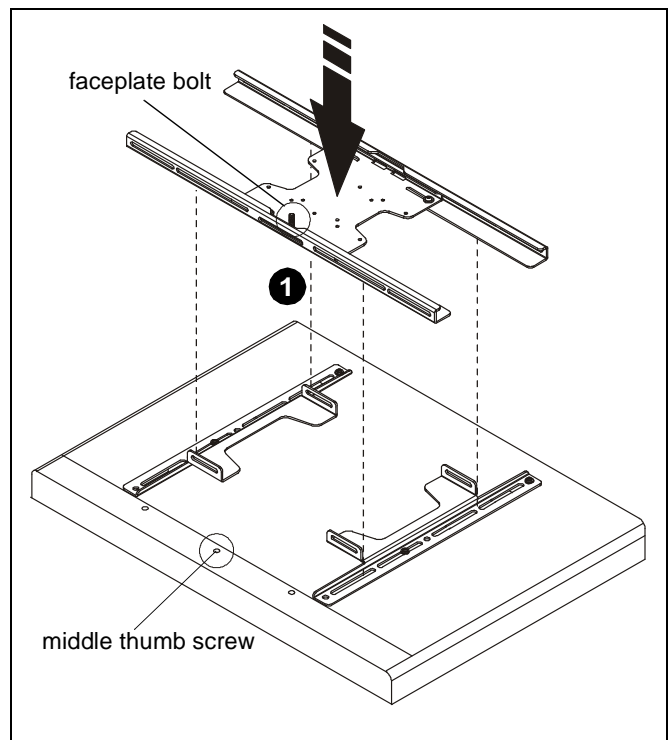
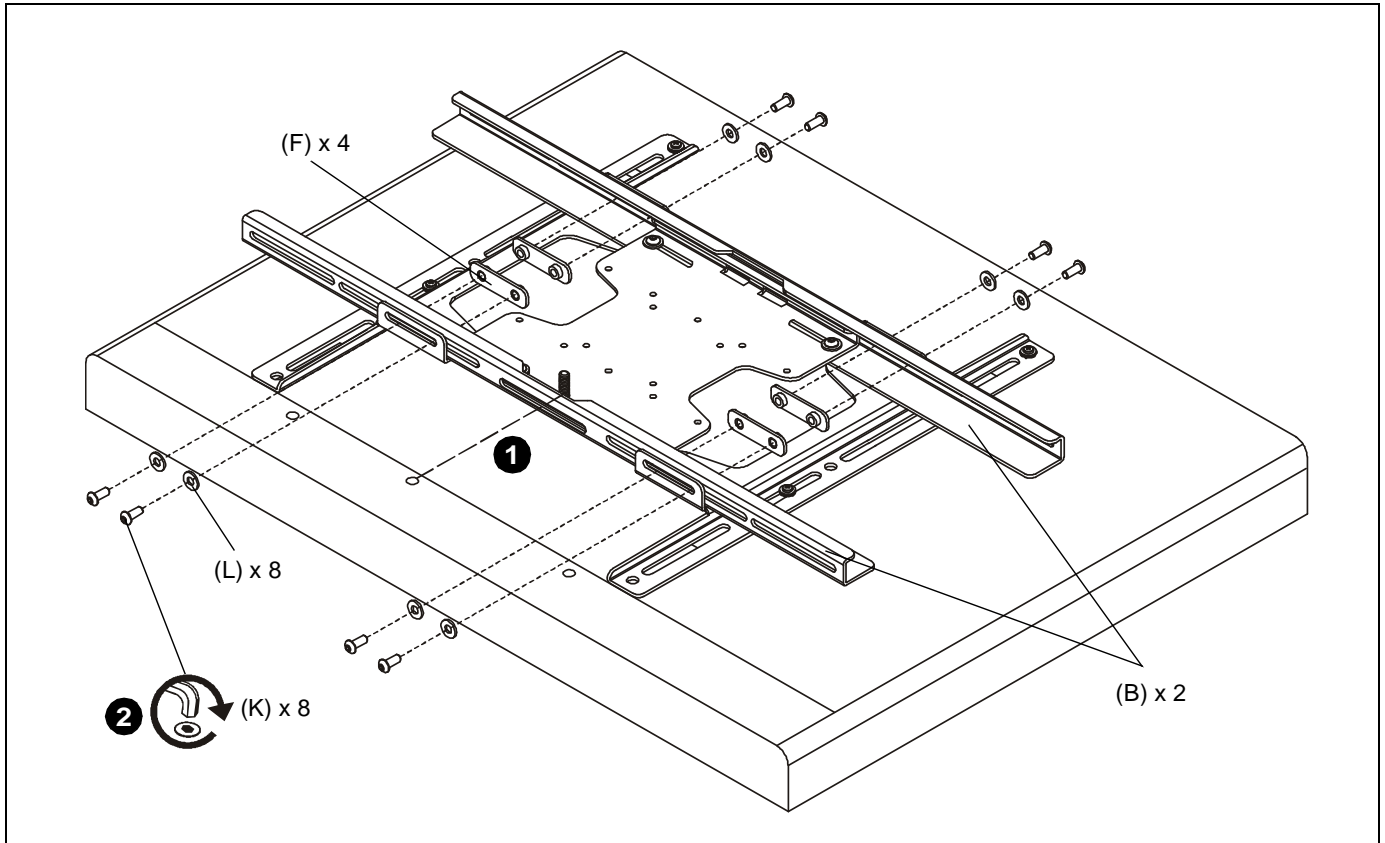

Figure 9
Figure 10
- Align faceplate brackets (B) with interface brackets (C or D), aligning the middle thumb screw on bottom of display with the faceplate bolt. (See Figure 9) and (See Figure 10)
- Using hex key (H), install eight 1/4 x 5/8" screws (K) through eight 1/4" washers (L) and faceplate brackets (B) into four backing plates (F). Tighten securely. (See Figure 10)